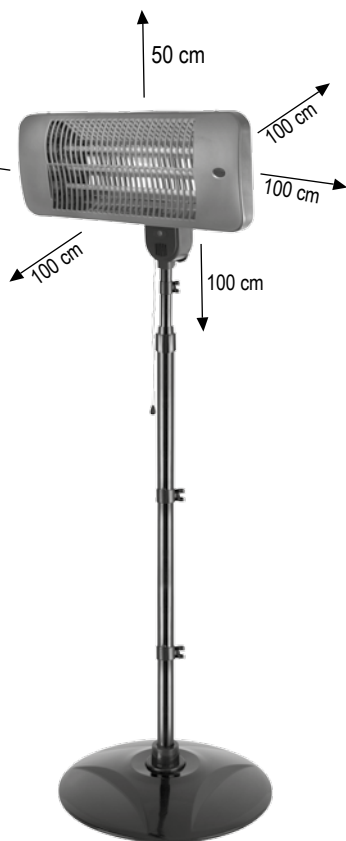

Figure 2 • 2. ábra • 2. obrázok • fig. 2. • 2. skica • 2. obrázek • Slika 2.
2. Never locate the unit directly in corners and observe the minimum mounting distances indicated in Figure 2. Always observe the health and safety regulations valid in the country of use.